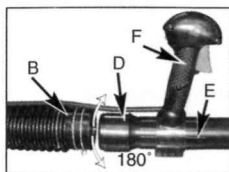
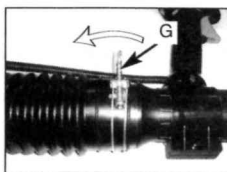

Fig. 3
Fig. 4
2. Put the hose clamp (C) on the flex tube and the operating tube together.
3. Turn the rotary ring mark (D) so it aligns with the throttle handle (F). Insert the operating tube (E) into the flex tube (B) (Fig. 3) and then tighten securely with a hose clamp (G)(Fig.4).